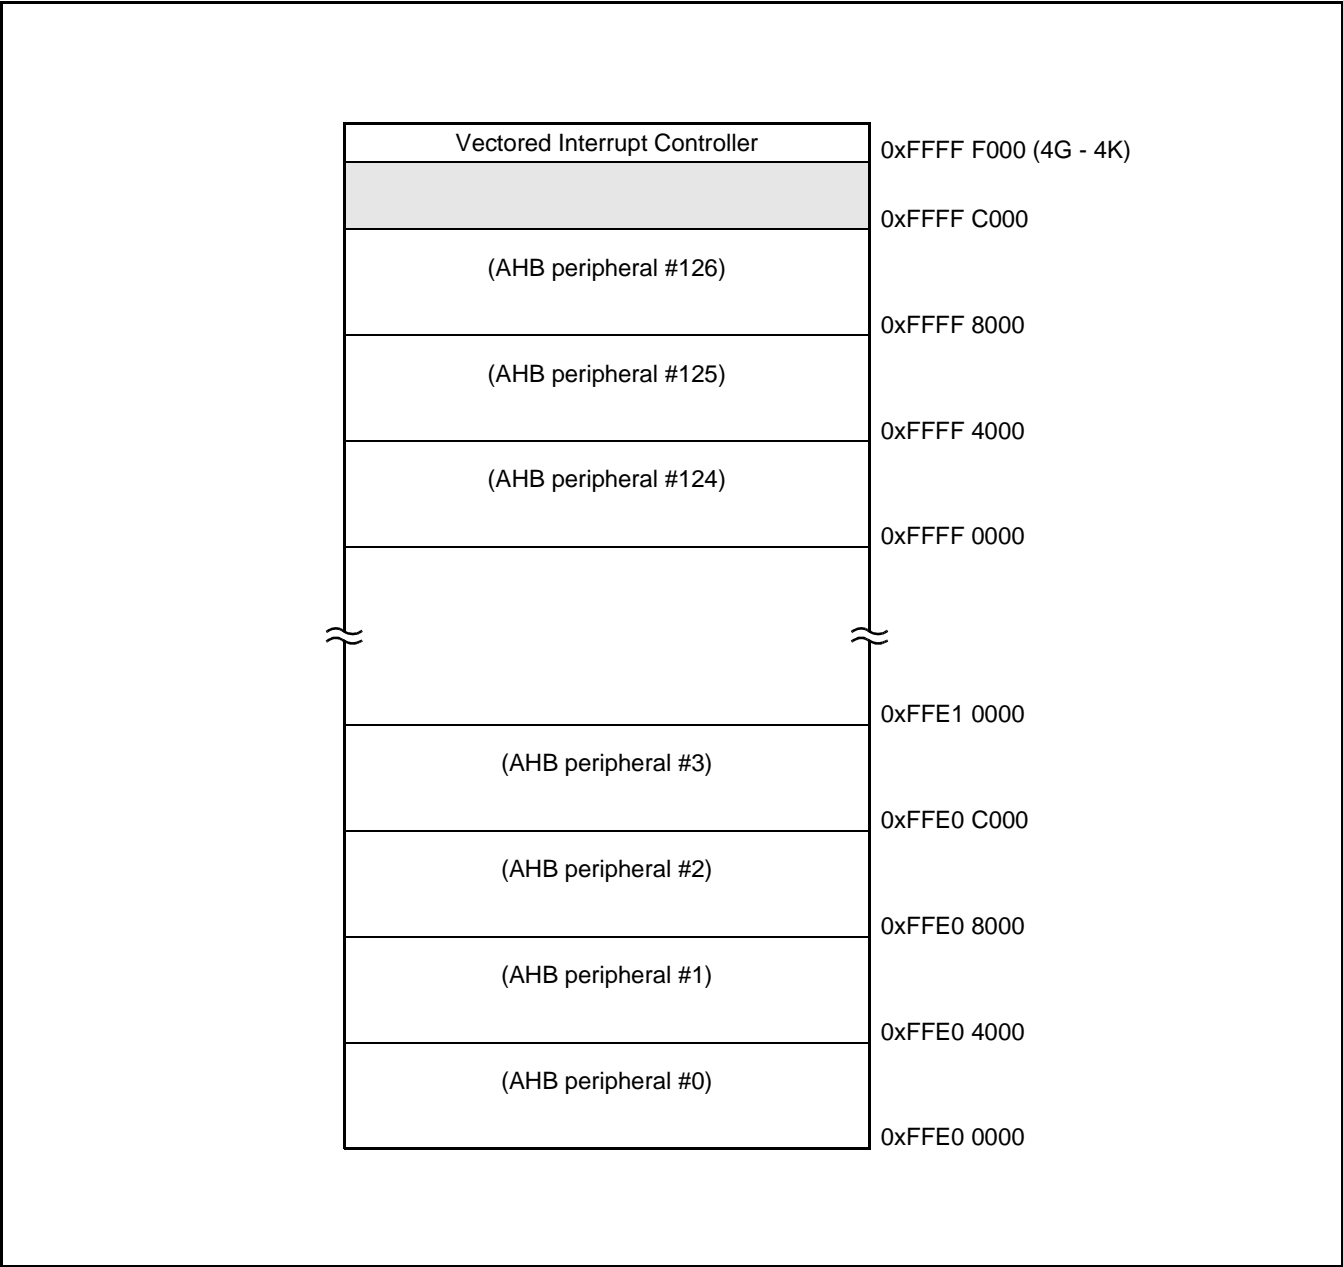

Figure 4: AHB Peripheral Map
- Unassigned AHB peripheral spaces. See Figure 4.